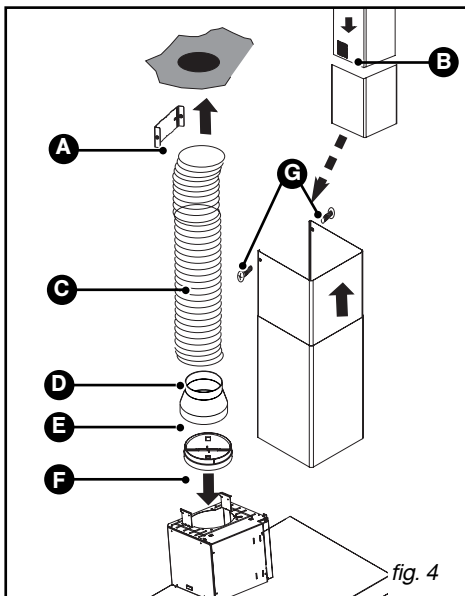

fig. 4
– Slide the end of the flue over the motor outlet (fig. 4).
– Prepare your telescoping ventilation shaft, taking care not to block the vents (B/fig. 4). Fit the chimney to the hood and lift the upper portion to adjust the height and then screw it (G/fig.4) on the metal chimney bracket (A/fig. 4).